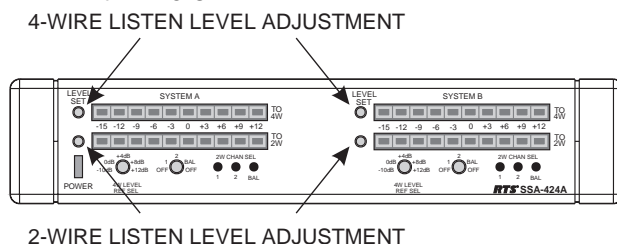

Figure 8. Location of level adjust trimmers
- 3 Use the level adjust trimmers (Figure 8) to fine adjust the listen levels.